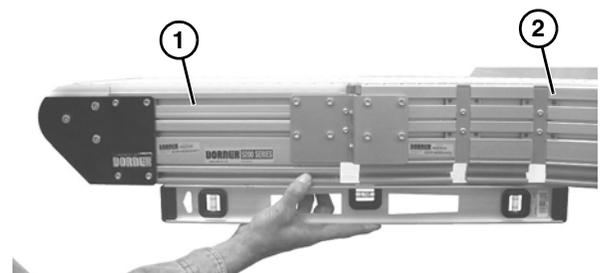

Figure 10
*The bottom of the straight frame sections (**Figure 10, item 1**) and curve frame sections (**Figure 10, item 2**) must be level.*